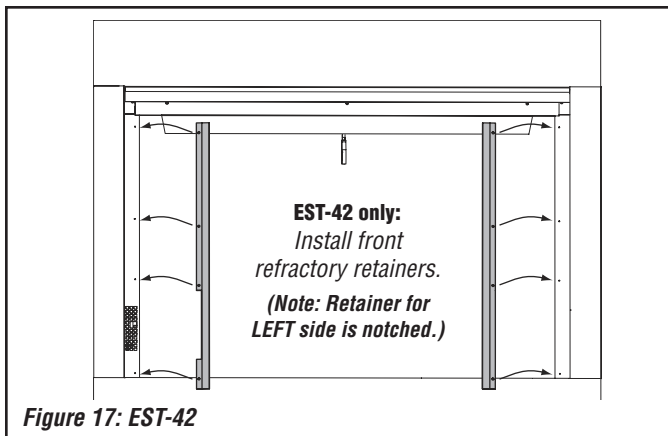

Figure 17: EST-42
- 11.1. Refer to **Figure 17, below**. Install the two front refractory retainers as shown in Figure 17, below. Note that the retainer for the LEFT side of the firebox is NOTCHED.